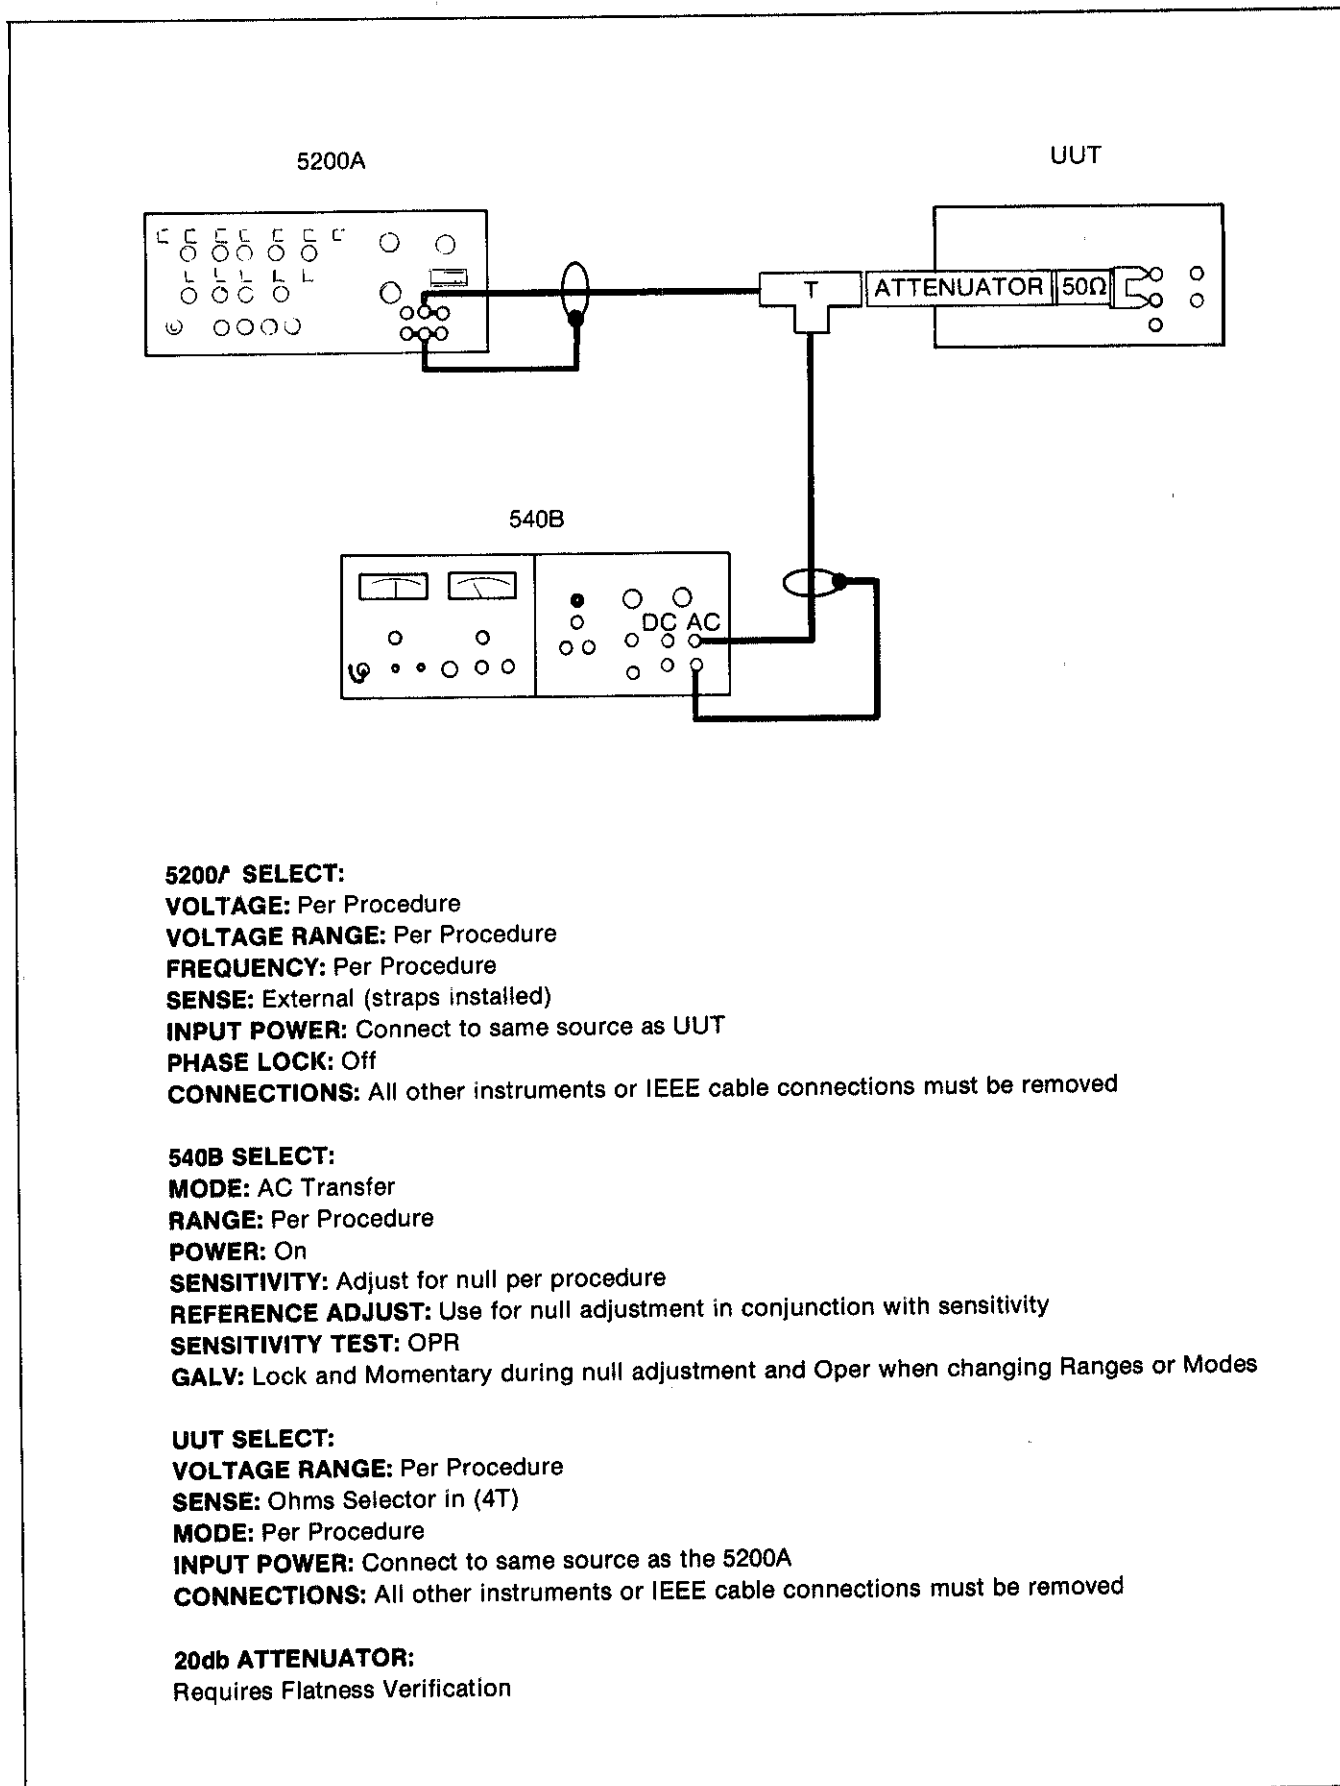

Figure 4-7. Equipment Set-Up C
12. Connect the 5200A, 540B, and the flatness verified 20 dB attenuator as shown in Figure 4-7.